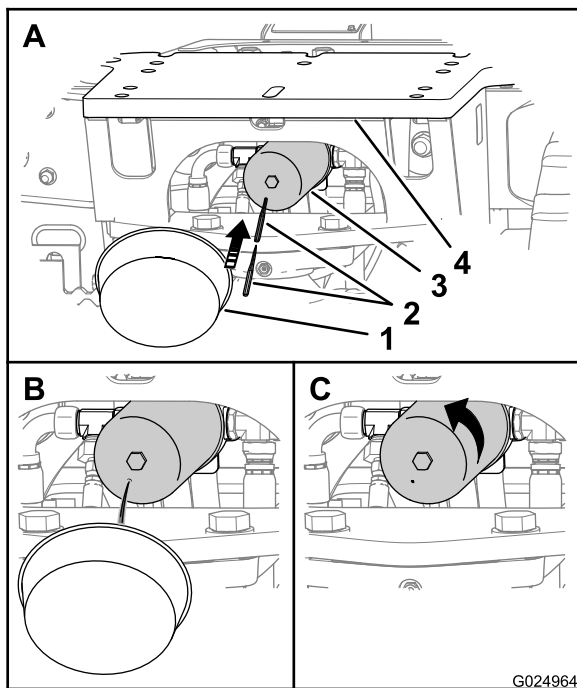

Figure 112
Note: You can access the hydraulic-return filter from underneath the rear-attachment plate of the machine (Figure 112).
1. Place a container under the hydraulic-return filter (Figure 112).
3. Rotate the hydraulic-return filter counterclockwise and remove the filter (Figure 112).
2. Puncture the bottom of the hydraulic-return filter and allow the residual hydraulic fluid to drain in the container (Figure 112).